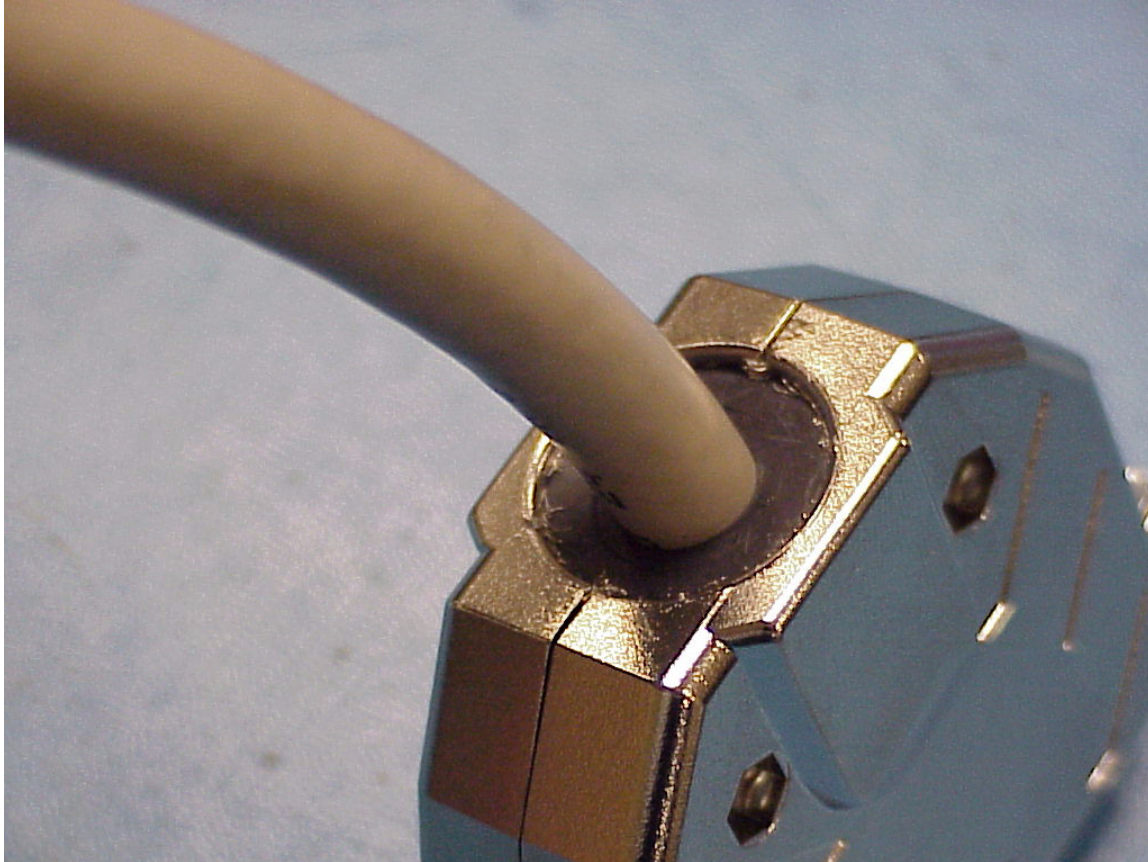

Figure 15. Trimmed Braid
11. Trim the braid. The resulting cable should appear as shown in Figure 15.